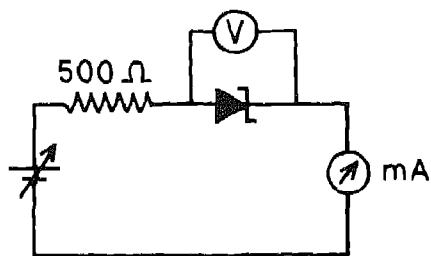

Fig. 6 7 (a)
3. Now connect the circuit as shown in Fig 6 7 (b) and note  $I$  for various values of  $V$  (as in step 2 above) and plot  $I$  as a function of  $V$  to obtain